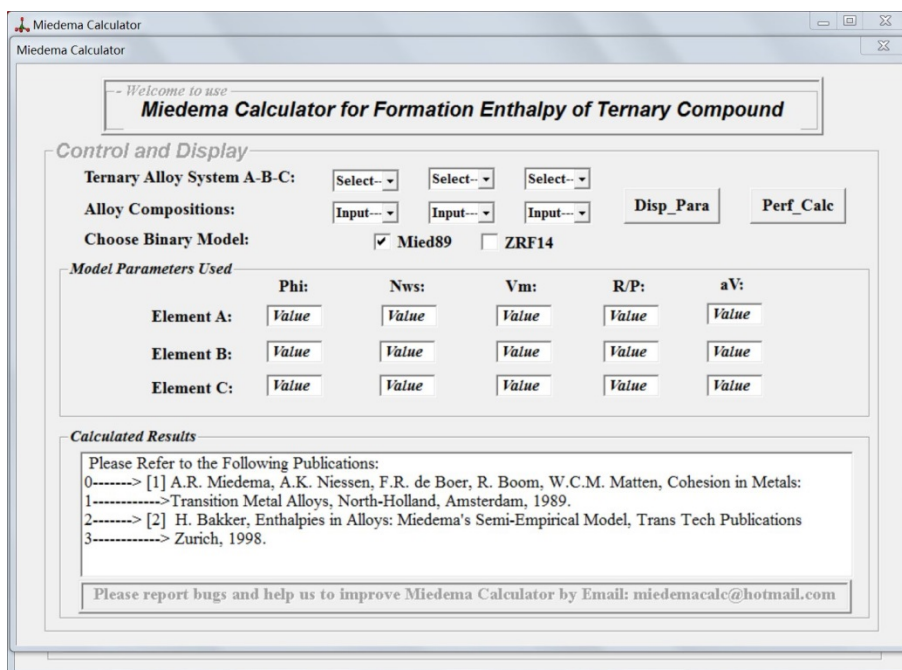

Fig. 4.2. The module interface for the formation enthalpies of ternary intermetallic compounds.
Fig. 4.2 presents the module interface for the formation enthalpies of ternary intermetallic compounds. The original Miedema's model and several geometrical models are supported in this module. For the calculation of formation enthalpies of ternary intermetallic compounds based on the different geometrical models:
- 2) In menu, choose "Module"-> "Formation enthalpy of ternary compound" to launch the module interface (see Fig. 4.2);